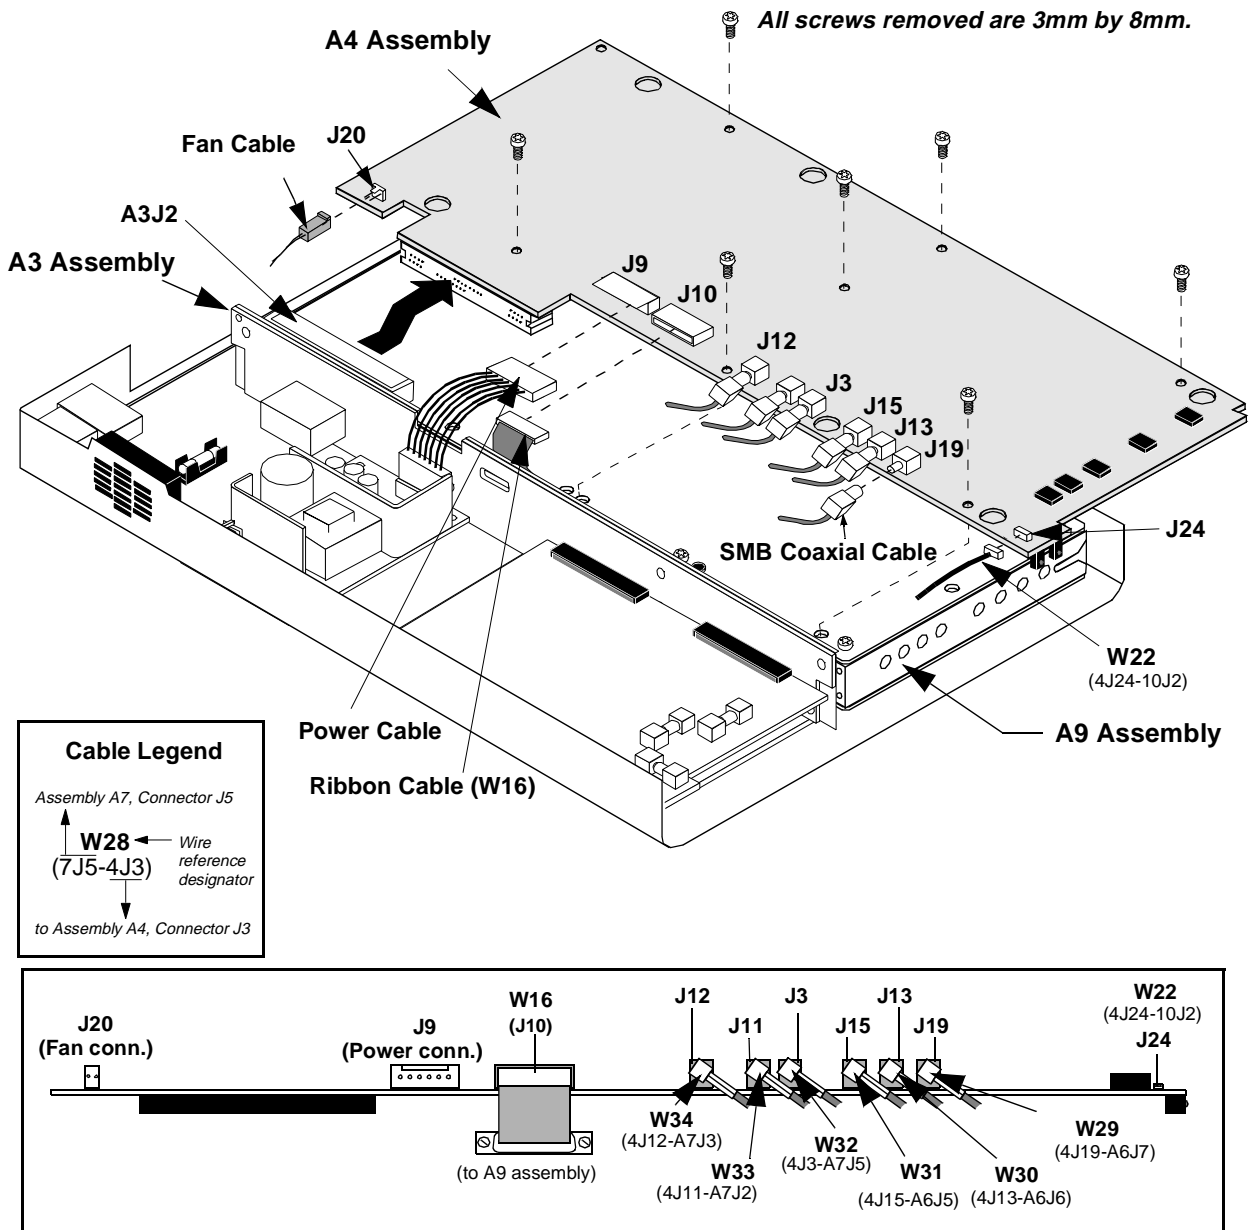
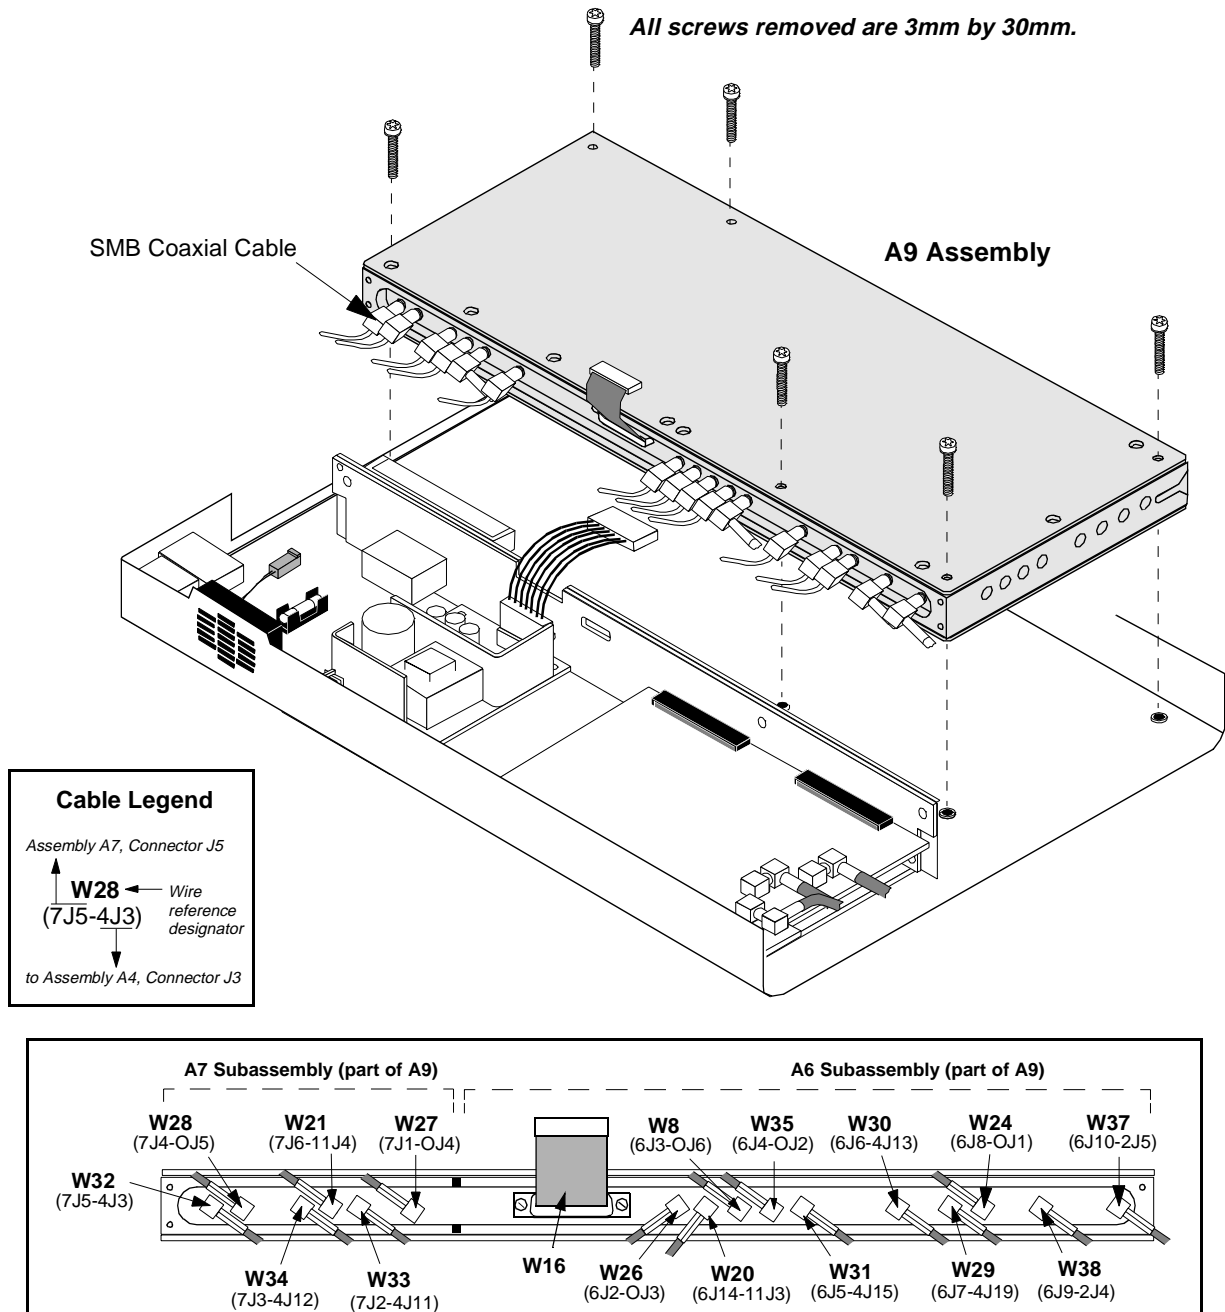
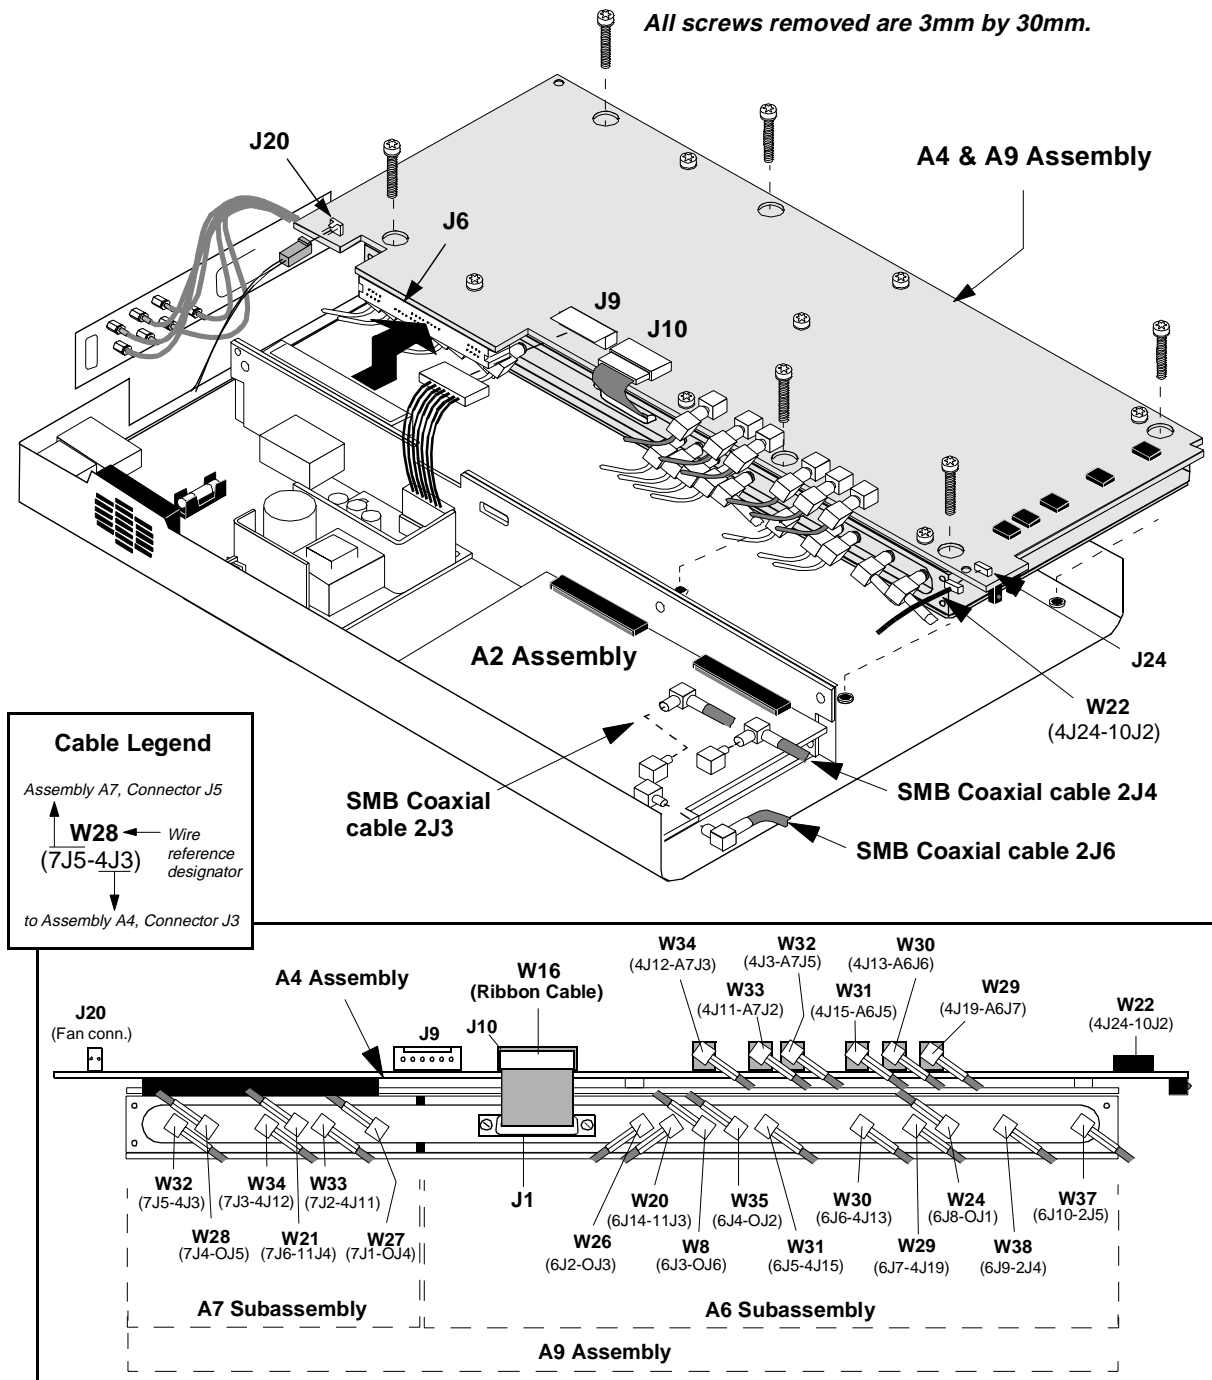

Figure 27 Removing the A4 Assembly
Figure 28 Removing the A9 Assembly
Figure 29 Removing the A4/A9 Assembly
4. Remove the seven screws that secure the A4 assembly to the A9 assembly, see figure 27 on page 85.
This completes the procedure for the removal of the A4 assembly. Use figure 27 on page 85 to identify the location of the connectors and cables when reinstalling the A4 assembly.
5. Remove the 6 screws that secure the A9 assembly to the deck, see figure 28. The A9 assembly can now be lifted from the deck.
6. Disconnect all the SMB connectors from the A9 assembly, see figure 28. (SMB cables are identified with cables clips designating the reference number of the assembly and connector's reference number on the assembly, for example, 7J5 = A7 assembly, connector J5)
This completes the procedure for the removal and disassembly of the A9 assembly. When reassembling the A9 assembly, use figure 28 on page 87 and table 8 on page 88 to help you determine the location of the SMB connector/coaxial cables.
4. Disconnect the connectors on the A4 and A9 assemblies, see figure 29 on page 90.
6. Disconnect the 2J3, 2J4, and 2J6 SMB connectors from the A2 assembly, see figure 29 on page 90.
7. Remove the 6 screws that secure the A4/A9 assembly to the deck, see figure 29.
1. Use figure 29 to help you determine the location of the SMB coaxial connectors. The ends of the coaxial cables are identified with cable clips. For more detail of the A4 assembly SMB connectors, see figure 27 on page 85. For details of the A9 assembly see figure 28 on page 87 and table 8 on page 88.